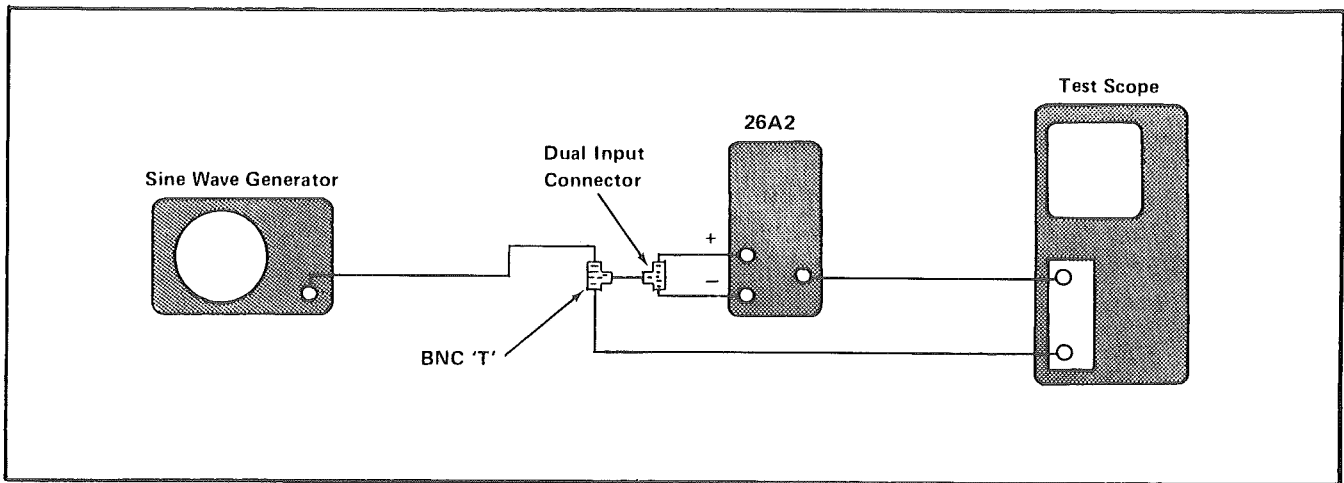

Fig. 5-3. Equipment setup for step 4.
a. Set up the equipment as illustrated in Fig. 5-3.